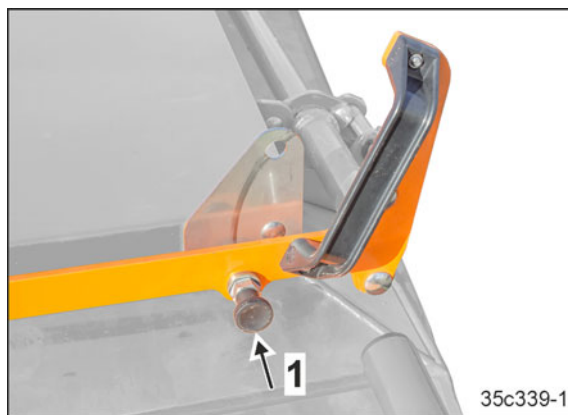

Fig. 260
4. Make sure that the spring-loaded pin engages (Fig. 260/1).